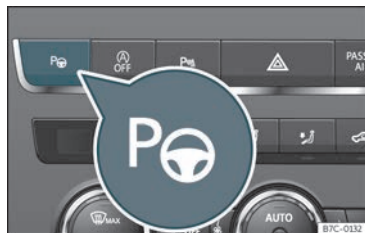

Fig. 177 In the upper part of the centre console: button to switch on the Park Assist system.
The components of the Park Assist system are the ultrasonic sensors located in the front and rear bumpers, the **P** button **Fig. 177** to switch the system on and off and the messages on the instrument cluster display.
After activating the Park Assist system and after detecting a parking space, the display on the instrument panel proposes a parking mode. The Park Assist system selects the parking mode automatically. The selected mode is shown on the instrument panel display >>> **Fig. 178**. The reduced display of other possible parking modes is also shown >>> **Fig. 179**. If the mode selected by the system does not correspond to the desired mode, you can select another mode by pressing the **P@** button >>> **Fig. 177**.
- Press the P@ button >>> Fig. 177. A control lamp on the P@ button lights up when the system is switched on.